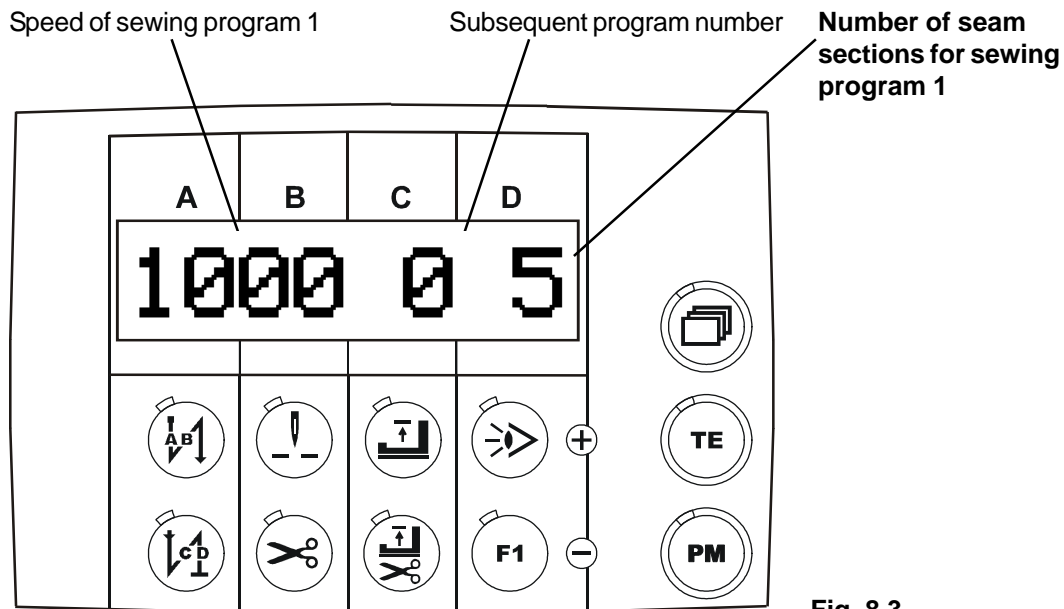

Fig. 8.3
- 3.2 Press the paging key until the display **Fig. 8.3** appears